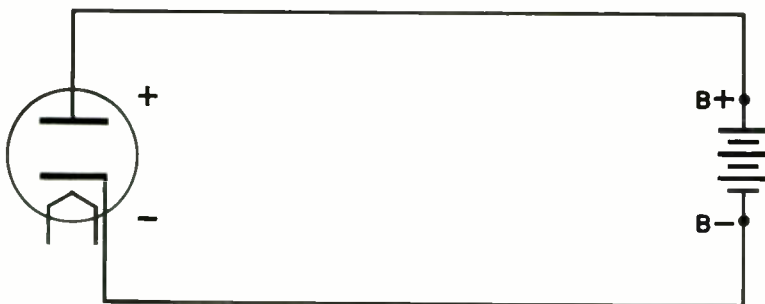

Figure 13 — Diode with a positive plate voltage
**Positive Plate Voltage Conditions** The schematic diagram in Figure 13 shows the B+ voltage connected to the plate, and the B— voltage connected to the cathode. The direction of the electrostatic field between the plate and cathode will be such as to accelerate the electrons near the outer edge of the space charge and attract them to the plate. Upon striking the plate the electrons are attracted to the positive terminal of the battery. This flow of electrons from the plate of the tube to the positive terminal of the battery is called *plate current* ( $i_p$ ).